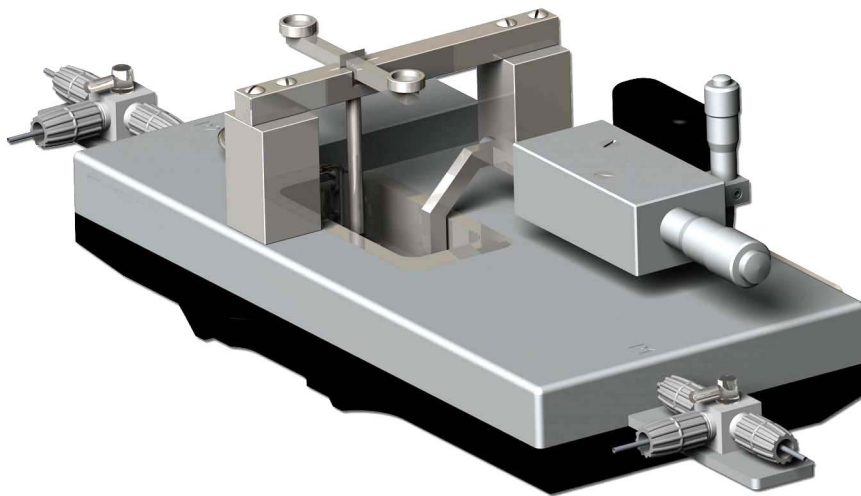

Figure 5.9 Weight Calibration Set up
3. After approximately 20-30 minutes the whole system will have reached the target temperature (normally 37°C). Place the warmed calibration bridge and balance on the myograph unit as illustrated in fig. 5.9.